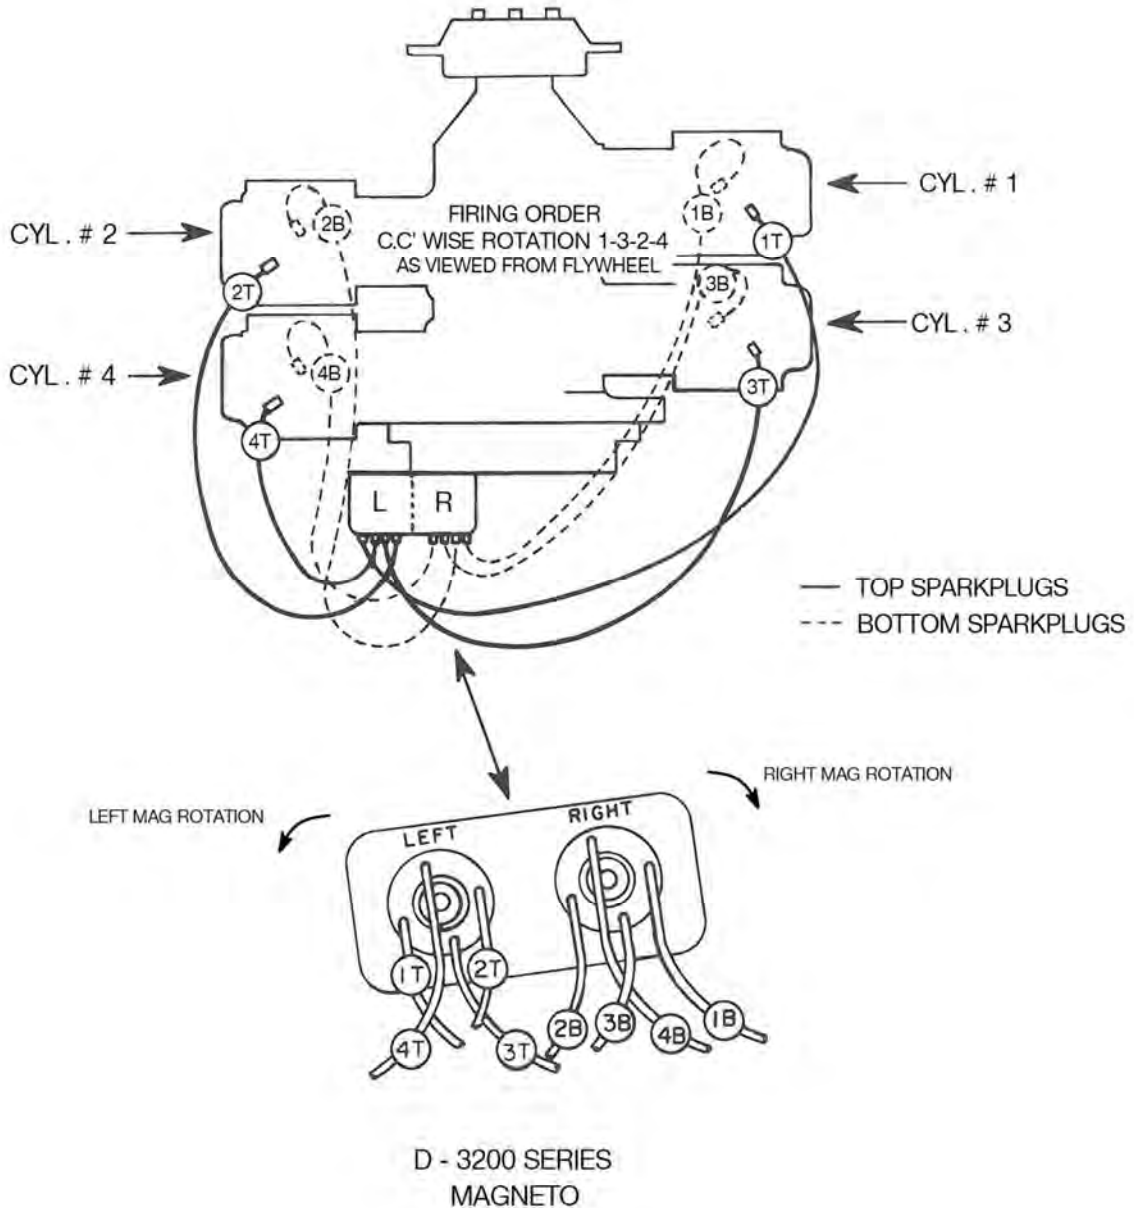

Figure 13-16. Ignition Wire Installation
F. Harness Assembly (See Figure 13-16)